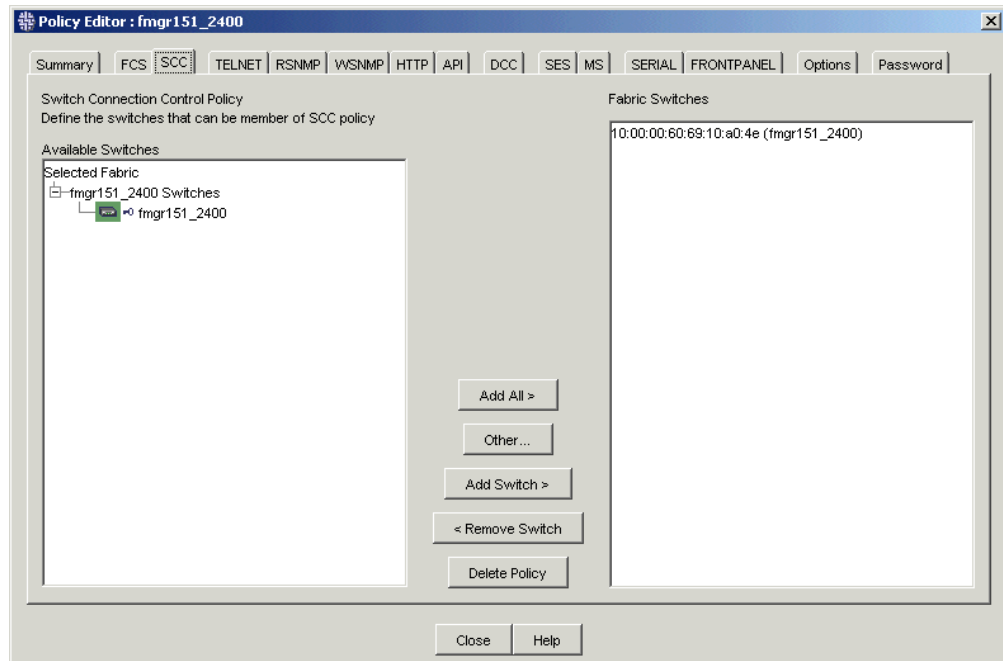

Figure 34: Configuring the SCC Policy
2. Click the **SCC** tab. All current switches in the fabric are displayed in the **Available Switches** list (Figure 34).